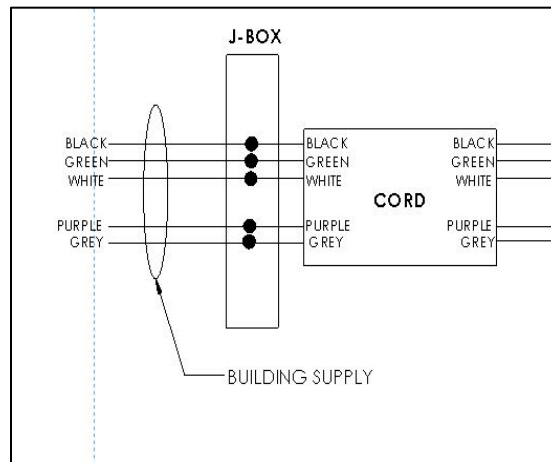

FIG. 23 – WIRE DIAGRAM
23. See WIRE DIAGRAM as shown in FIG. 23 and WIRE LABEL TABLE below for wire connections. Make all wire connections in accordance with the NATIONAL ELECTRICAL CODE and all applicable LOCAL AND STATE CODES.